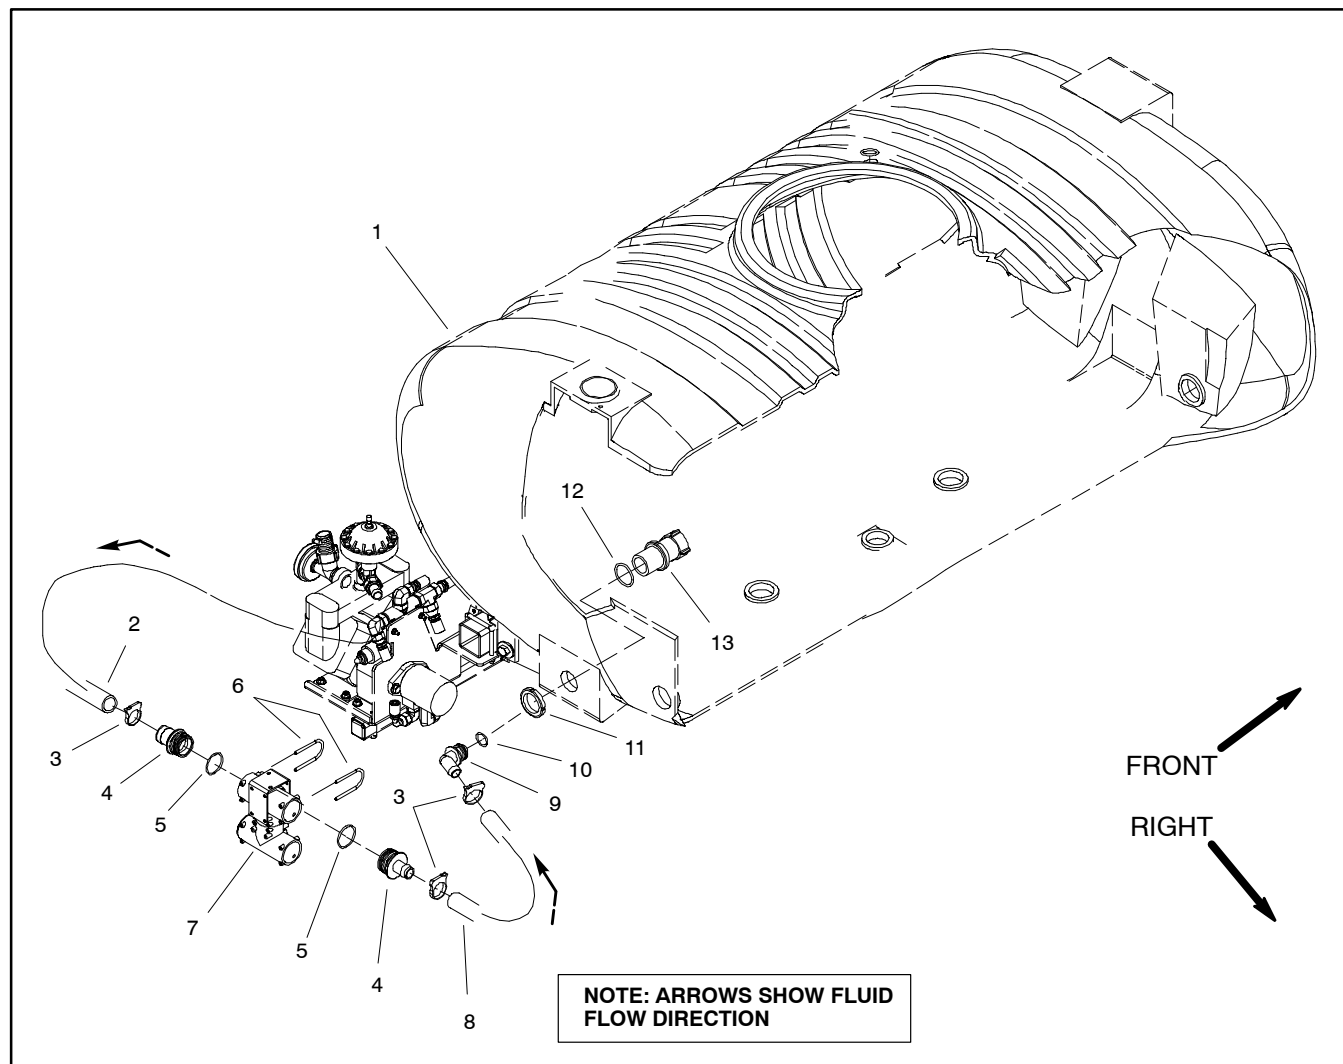

Figure 16
Removal (Fig. 16)
4. Remove pressure relief valve from spray tank using Figures 16 and 17 as guides. Discard all removed o-rings and gaskets.
Assembly (Fig. 16)
2. Install pressure relief valve using Figures 16 and 17 as guides. Replace all removed o-rings and gaskets.